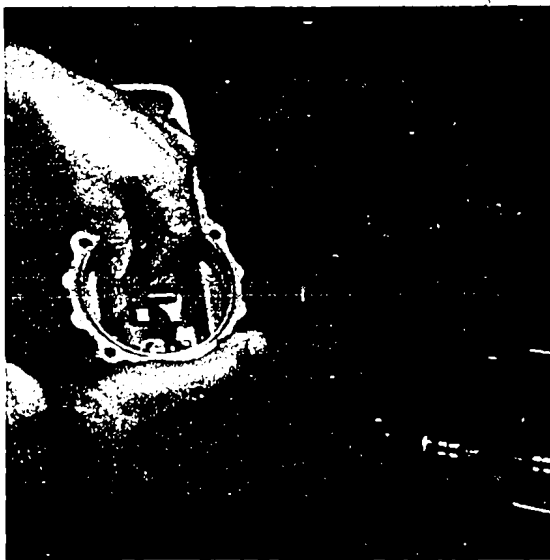

Fig. 32 Fitting cut-out mechanism spindle
Insert the complete assembly (117 and 118) into guide bush (116) having thoroughly greased 117 with grease Ft 1 v 8 (Fig. 32). Place sealing ring (124) correctly into bearing bush, or else this will otherwise bind later, thoroughly grease hooked spring (123) with grease Ft 1 v 8 and place spring capsule (125) in its position in the governor housing.